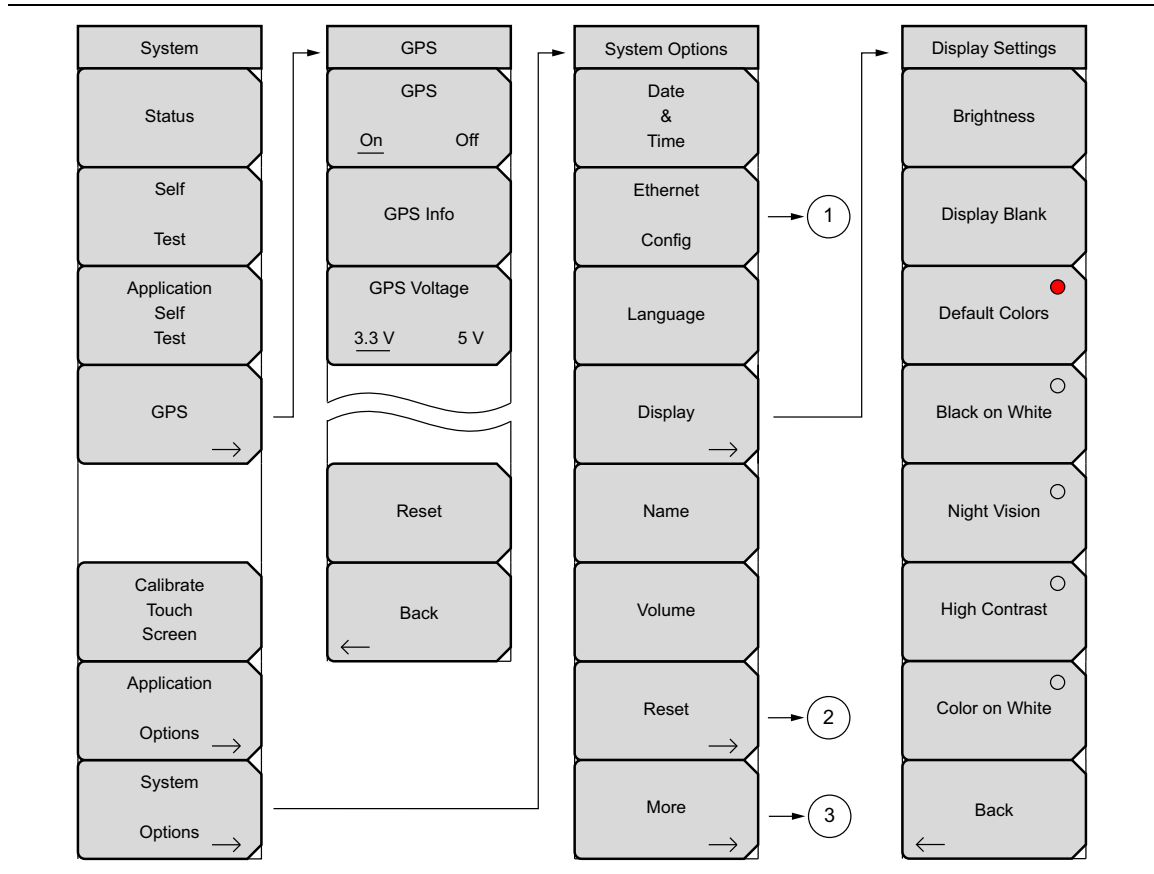
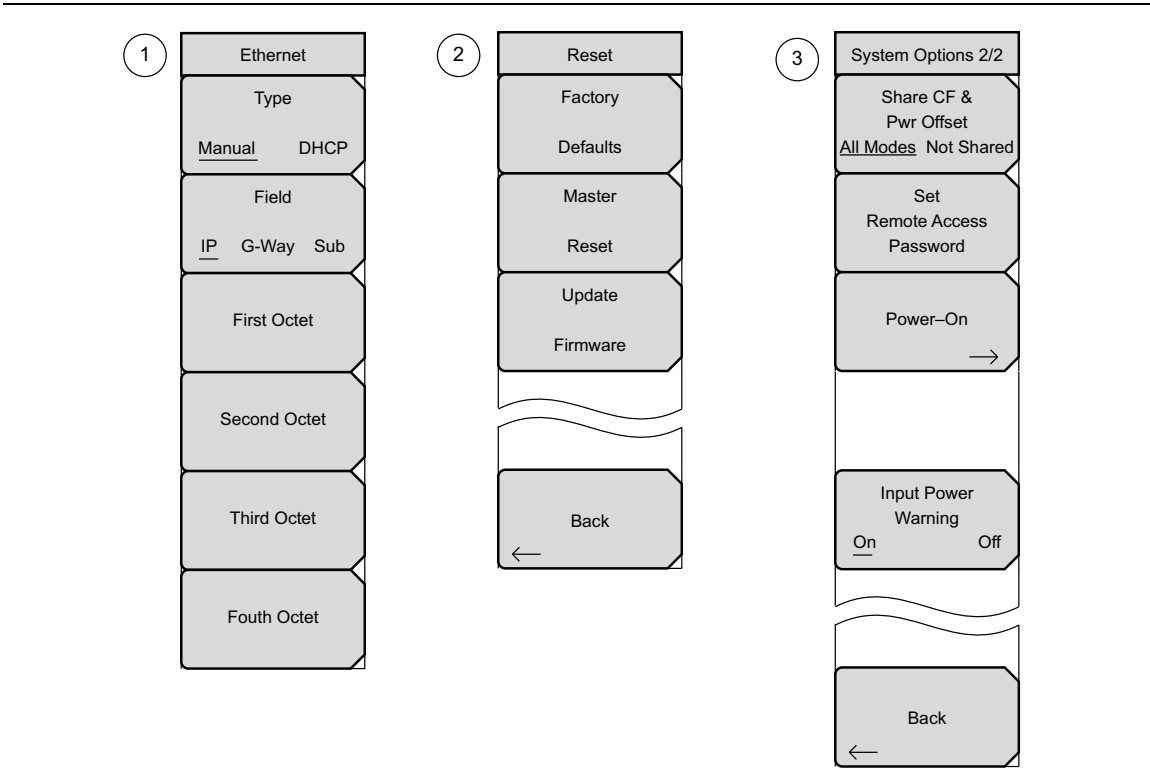

Figure 5-1. System Menu Map – Part 1
Figure 5-2. System Menu Map – Part 2
To access the functions under the System menu, press the **Shift** key, then the **System (8)** key. Figure 5-1 and Figure 5-2 show the menu group that is accessible from the System menu. Menu maps typically display all possible submenu keys, although some keys are displayed on the instruments only under special circumstances (refer to the menu descriptions on the following pages).
Note that the menus that are indicated by numbered circles are shown in Figure 5-2.